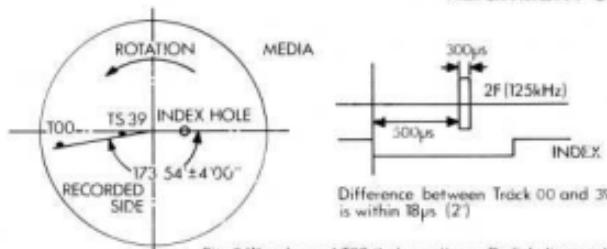

Fig. 2 Waveform of T39 (Index pattern - Radial alignment)
2. Adjustment of the index burst by use of Track 39 (Fig. 2).	<input type="radio"/>
- 4) Adjust OO Sensor (B on Fig. 6) so that scope shows correct difference as Fig. 2.